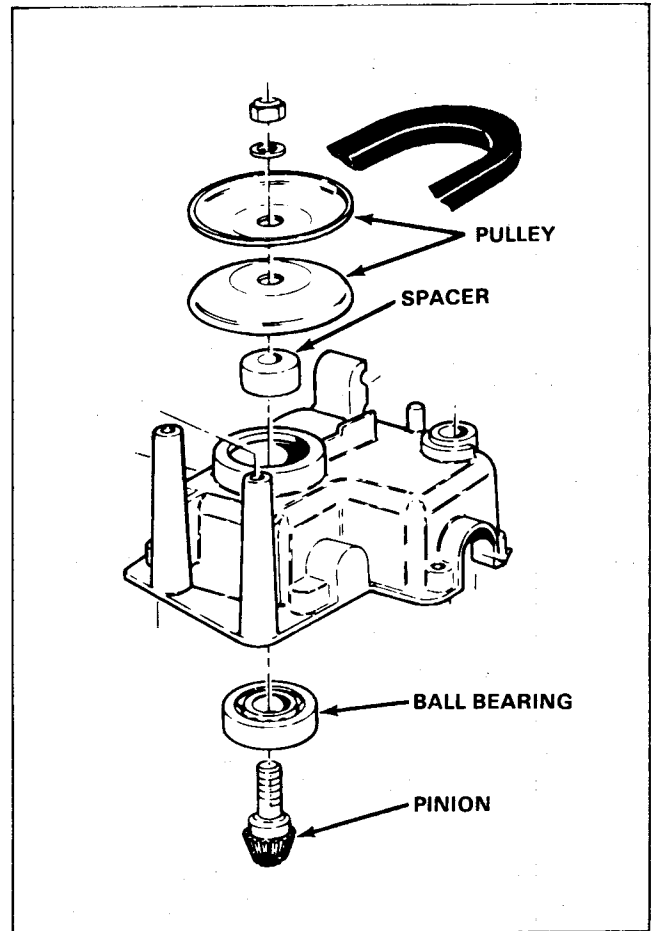

Figure 49
11. Slide the input shaft and pinion through the ball bearing and top with the spacer and two pulley halves as shown in Figure 49. Secure with a flat washer and a nylon locknut.